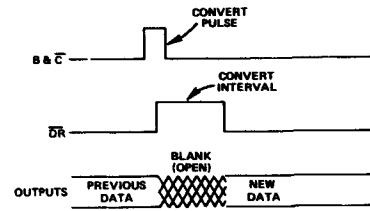

Figure 12. Convert Pulse Mode
**Convert Pulse Mode** — In this mode, data is present at the output of the converter at all times except when conversion is taking place. Figure 12 illustrates the timing of this mode. The  $\overline{\text{BLANK}}$  and  $\overline{\text{CONVERT}}$  line is normally low and conversions are triggered by a positive pulse. A typical application for this timing mode is shown in Figure 15, in which  $\mu\text{P}$  bus interfacing is easily accomplished with three-state buffers.